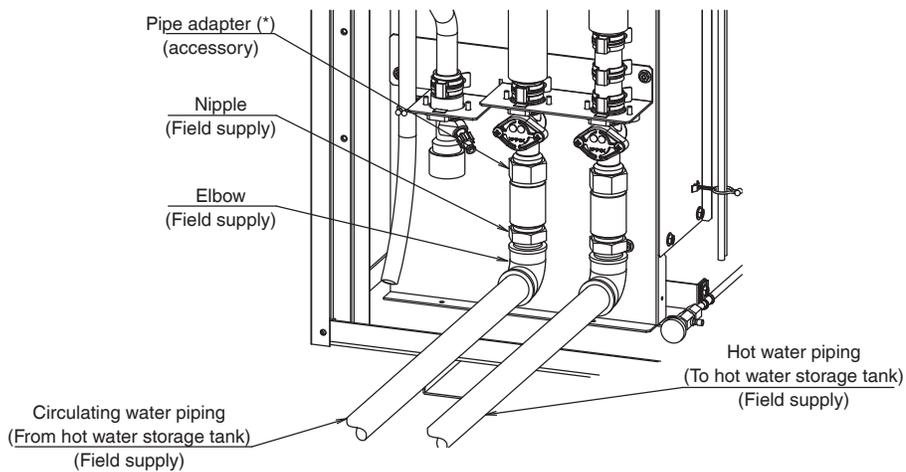

Fig. 16 Connection of water piping
- Fig. 16 shows the connection of the on-site water piping to the cascade unit.